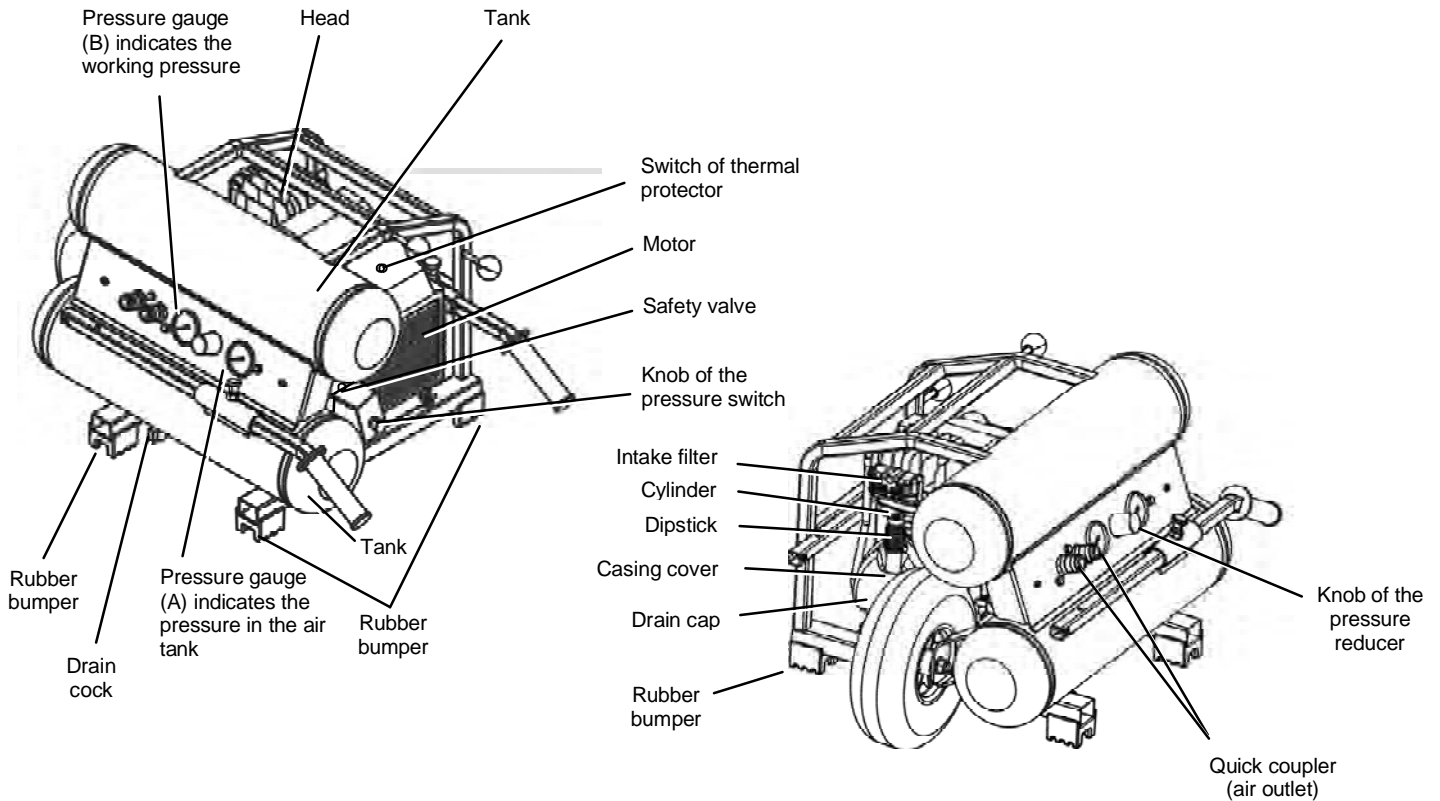

Fig.1
**NOTE:** When operating or storing the compressor, set 4 rubber bumpers downward on the floor (Refer to Fig.1)